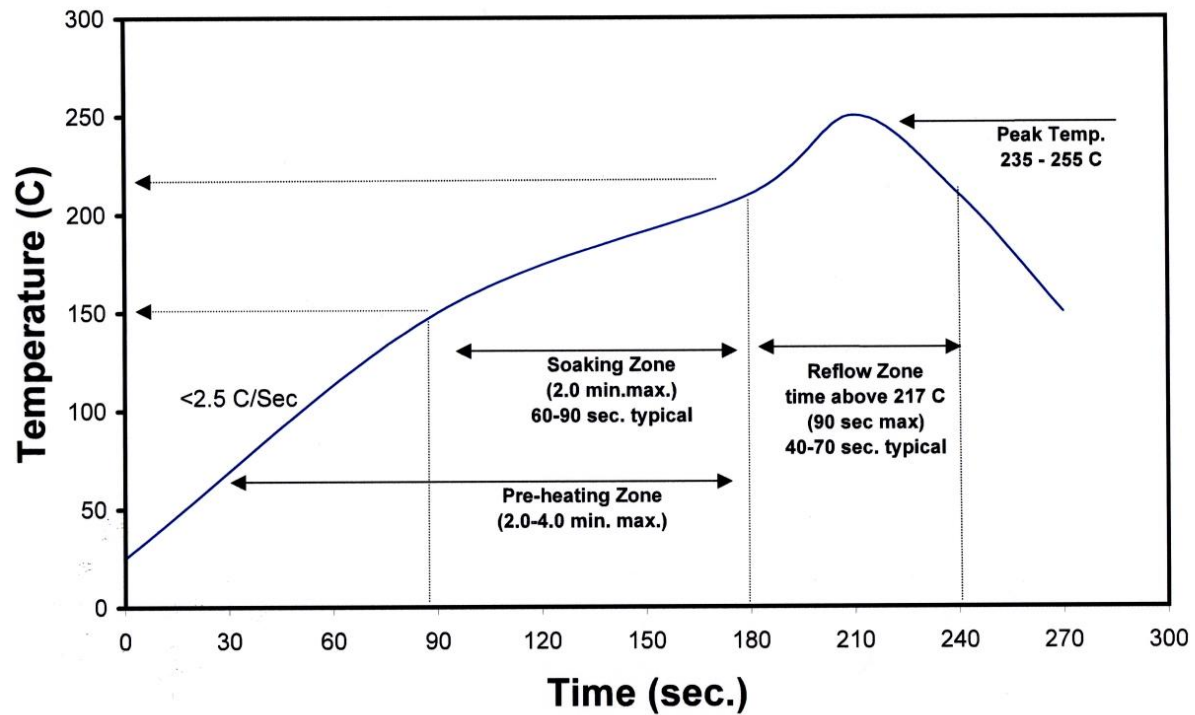

Figure 3: Reflow soldering profile for lead free soldering.
- Solder conditions per JEDEC J-STD-020D. See Reflow Soldering Profile Figure 3.